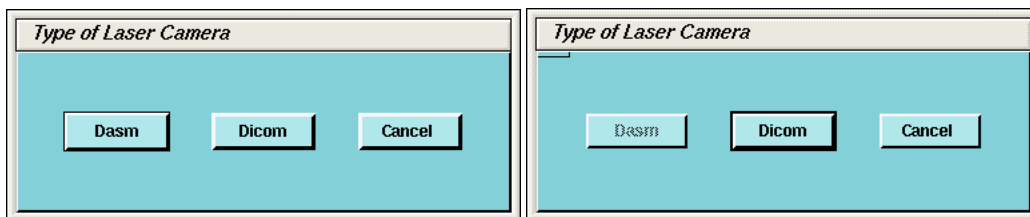

Figure 7-11 Dialog Box for camera Type
- b.) A dialog window for the camera type (DASM/DICOM) appears. If no DASM is detected during the OC boot, the DASM button will be disabled (Figure 7-11). If a DASM is present and has not been detected, reboot the OC and run the camera configuration tool again.